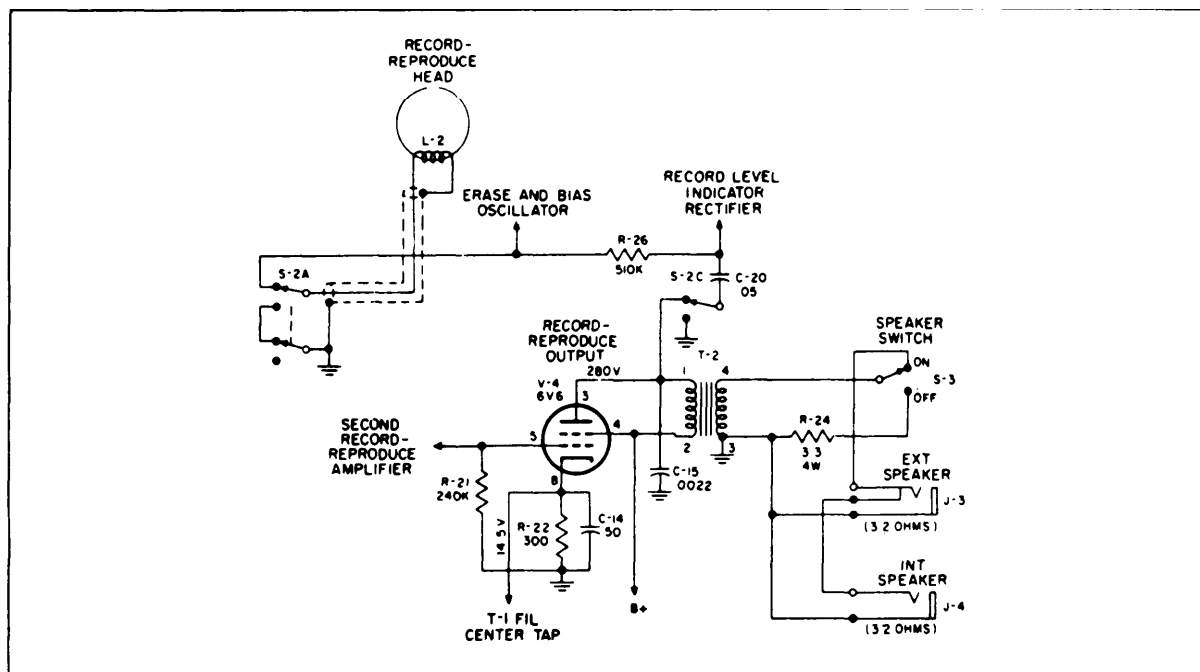

Figure 16. Output and Record Head - Schematic Diagram
5.8.2.2 OUTPUT AND RECORD HEAD (See figure 16.)